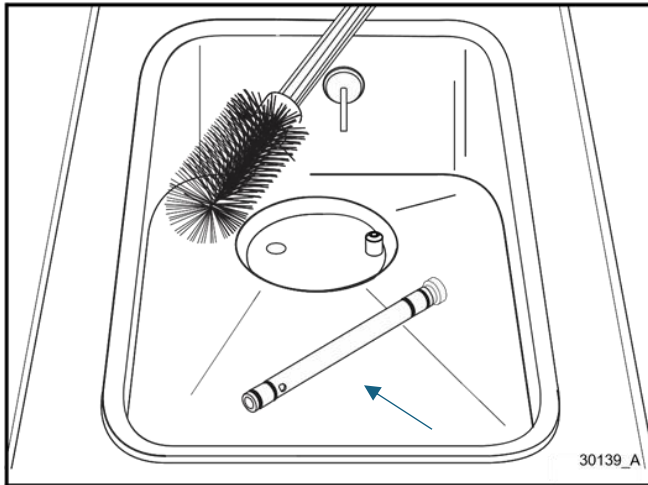

Figure 31
3. Lay feed tube into the hopper. (Figure 31)